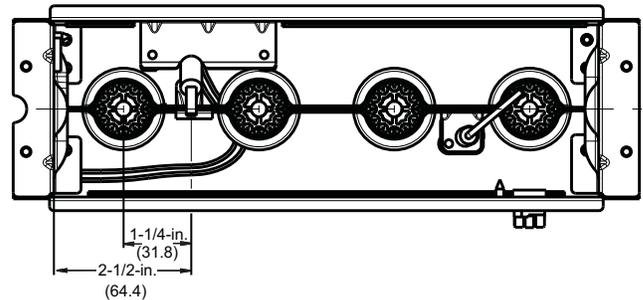

Fig. 5 - Igniter Position (Back View)
10. Check the igniter alignment. **See Fig. 5 and 6.**